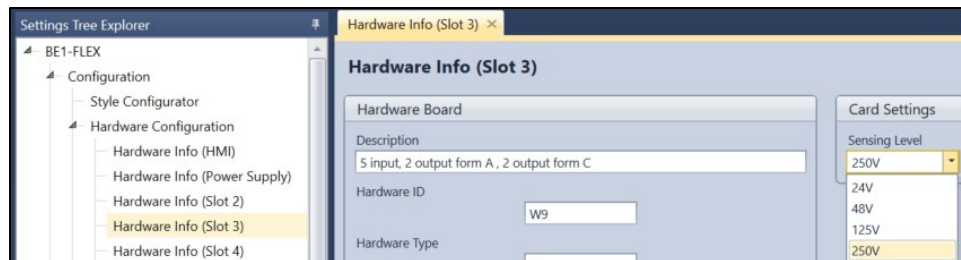

Figure 2-8. Hardware Info (Slot) Screen
- Step 5: Skip this step if not using DC voltage wetted Contact Sense inputs. In the Settings Explorer, click the “>” next to BE1-FLEX. This expands the sub menus in the tree. Click Hardware Configuration and select Hardware Info for each slot with DC wetted inputs. Select the appropriate sensing level from the Card Setting dropdown. See Figure 2-8.